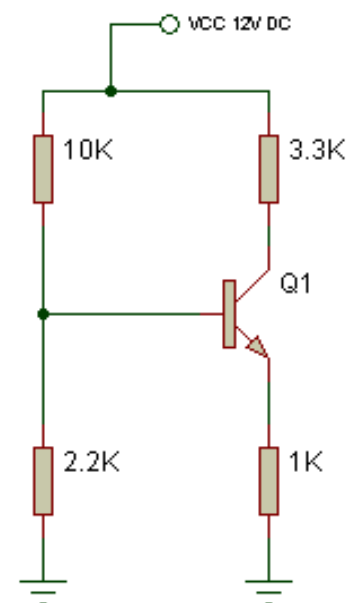

Figure 8
1. Set up the circuit of figure 8.